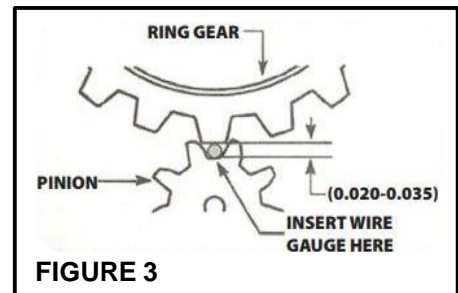

FIGURE 3
- 4) **GEAR MESH:** This is normally not adjustable on flange mounted starters since these starters pilot into a register plate to set the alignment. This plate MUST be installed between the engine and transmission or both depth and mesh will be adversely affected. An easy way to check this is adding paint to the starter gear to provide a wear pattern reference, this will typically be 0.020-0.035" (Figure 3). In cases where this spec is out of range always check the flexplate/flywheel condition and tolerance. Note: Always check the bellhousing indexing when using a manual transmission, this will alter the starter alignment and may cause binding and premature wear. (Very import with aftermarket bellhousings)